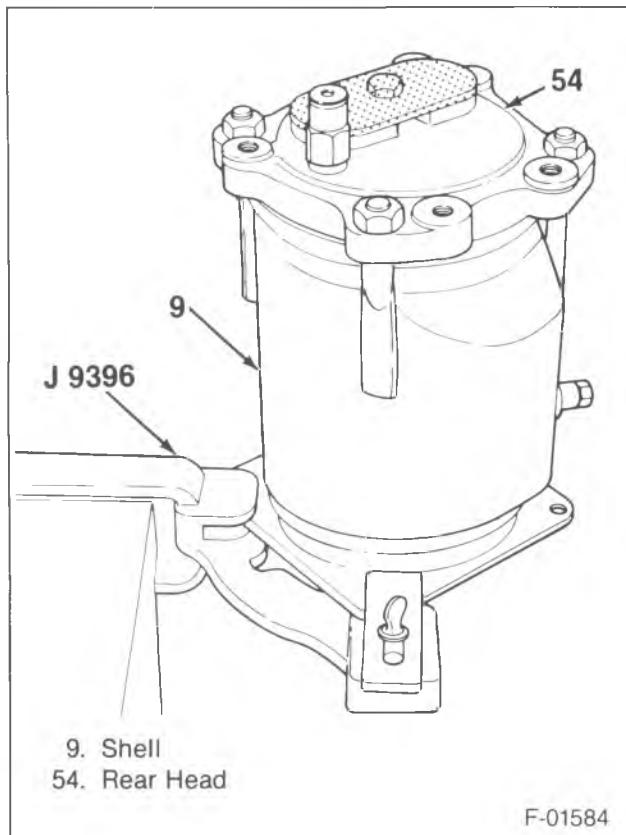
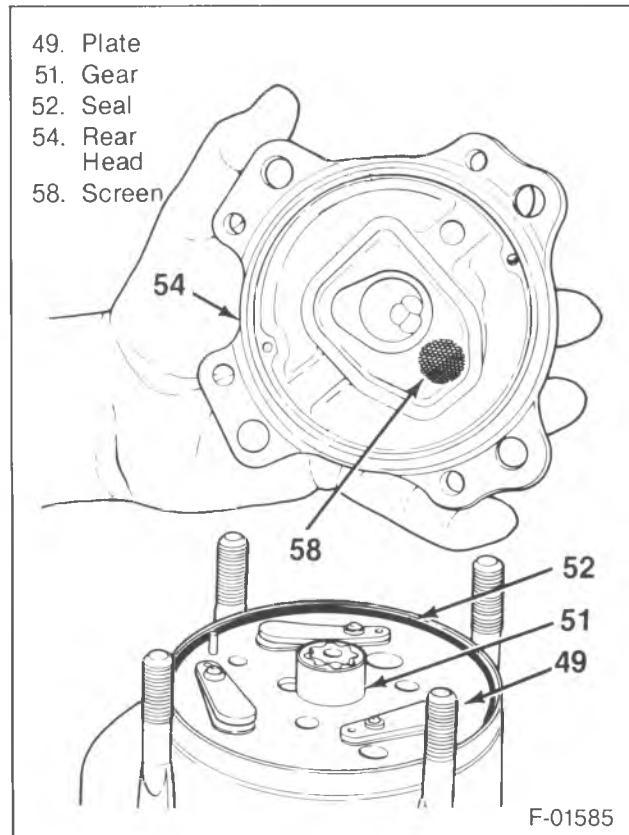
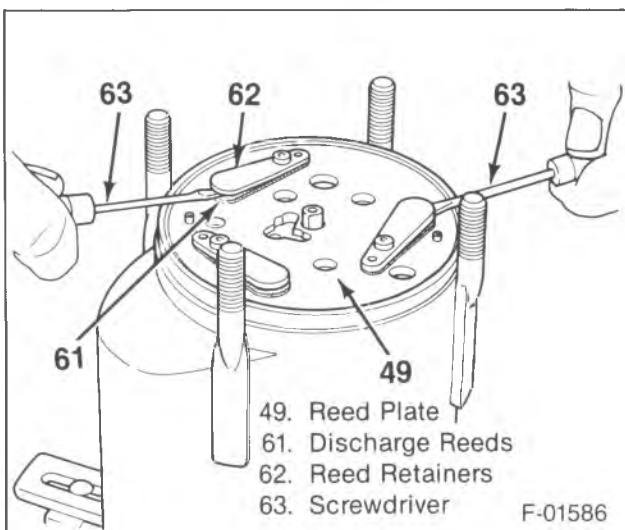

Figure 17—Compressor to J 9396
Figure 18—Removing the Rear Head
Figure 19—Removing the Rear Discharge Valve Plate and Seal
- Compressor to J 9396. Secure with thumb screws (figure 17).
- 1. Nuts (42) from the threaded studs.
- 2. Rear head (43) (figure 18).
- Tap around the edge to remove the rear head (43).
- 3. Suction screen (47).
- 5. Seal (52).
- 6. Rear discharge valve plate assembly (49) (figure 19).